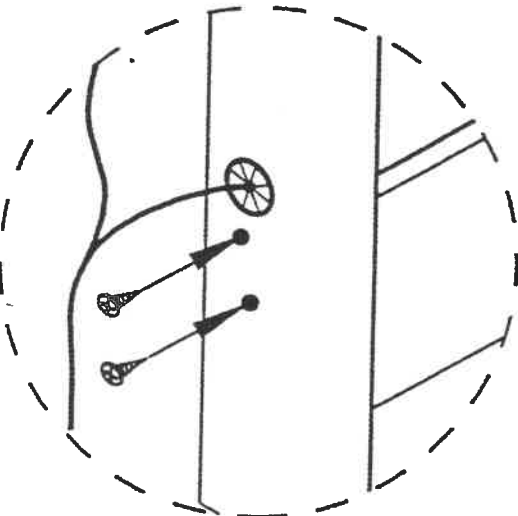

FIGURE 4
5. Using a Phillips screwdriver, install screws through the side wall (see figure 4) until they align with the holes in the starter base. Carefully tighten the screws until the starter base is secured.